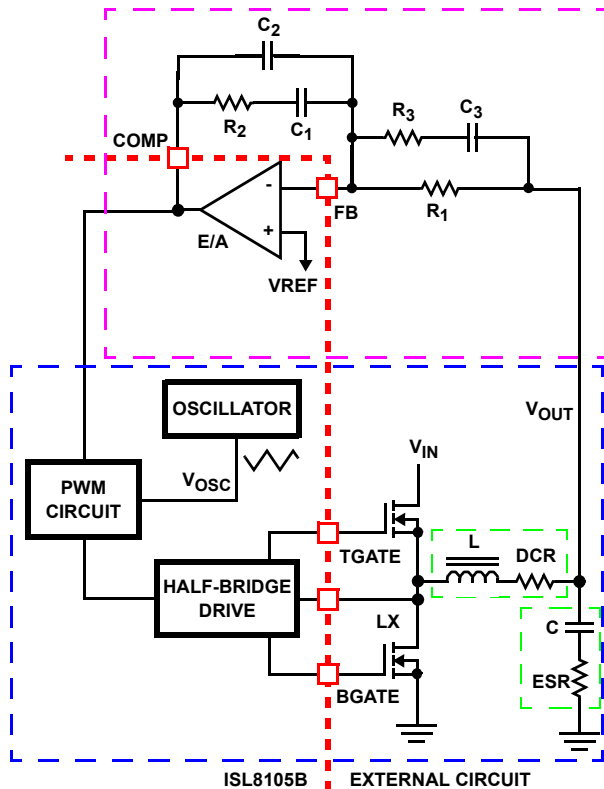

FIGURE 9. VOLTAGE-MODE BUCK CONVERTER COMPENSATION DESIGN
This section highlights the design considerations for a voltage-mode controller requiring external compensation. To address a broad range of applications, a type-3 feedback network is recommended (see Figure 9).
Figure 9 highlights the voltage-mode control loop for a synchronous-rectified buck converter, applicable to the ISL805B circuit. The output voltage (V_{OUT}) is regulated to the reference voltage, V_{REF} , level. The error amplifier output (COMP pin voltage) is compared with the oscillator (OSC) triangle wave to provide a pulse-width modulated wave with an amplitude of V_{IN} at the LX node. The PWM wave is smoothed by the output filter (L and C). The output filter capacitor bank's equivalent series resistance is represented by the series resistor ESR.
The compensation network consists of the error amplifier (internal to the ISL8105B) and the external R_1 to R_3 , C_1 to C_3 components. The goal of the compensation network is to provide a closed loop transfer function with high 0dB crossing frequency (F_0 ; typically 0.1 to 0.3 of f_{SW}) and adequate phase margin (better than $+45^\circ$). Phase margin is the difference between the closed loop phase at F_{0dB} and $+180^\circ$. The equations that follow relate the compensation network's poles, zeros and gain to the components (R_1 , R_2 , R_3 , C_1 , C_2 , and C_3) in Figure 9. Use the following guidelines for locating the poles and zeros of the compensation network:
1. Select a value for R_1 (1kΩ to 10kΩ, typically). Calculate value for R_2 for desired converter bandwidth (F_0). If setting the output voltage to be equal to the reference set voltage as shown in Figure 9, the design procedure is shown in Equation 5.